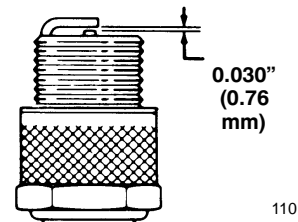

Figure 36
3. Set the air gap between electrodes of the spark plug at 0.030 in. (0.76 mm) (Fig. 36).